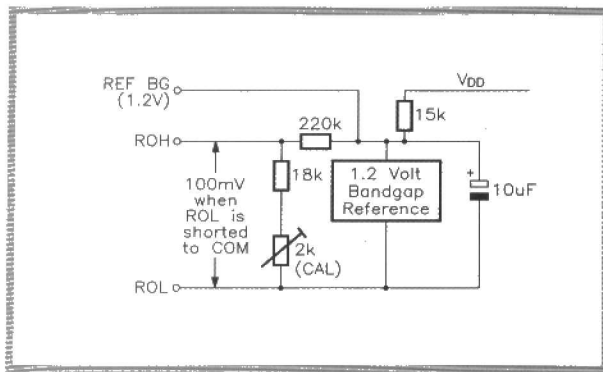

Figure 12. Typical bandgap reference circuit has an input impedance of about 20k.
**Reference Accuracy.** The built-in '100mV' reference (between ROH and ROL) of the DPM is factory-calibrated so that the meter reads '100.0mV' (1000) with 100.0mV input applied. This is achieved by adjusting  $V_{ref}$  to compensate for the meter's ratiometric error. If the ratiometric error is 0.1% low (reading 999),  $V_{ref}$  is also set 0.1% low (at 99.9mV) to give the correct 'voltmeter' accuracy. The ' $V_{ref}$ ' reference voltage is only precisely accurate when ROL is tied directly to COM (which is normally 2.8V below  $V_{DD}$ ), and when ROH is loaded by an impedance greater than 50M $\Omega$  or so. Figure 12 shows the typical circuit of the internal bandgap reference that is fitted to some modules. The circuit's output impedance is about 20k $\Omega$ , so an external loading of 2M $\Omega$  introduces an error of 1% and 20M $\Omega$  an error of 0.1%. The high input impedance of the RFH input causes zero loading error.